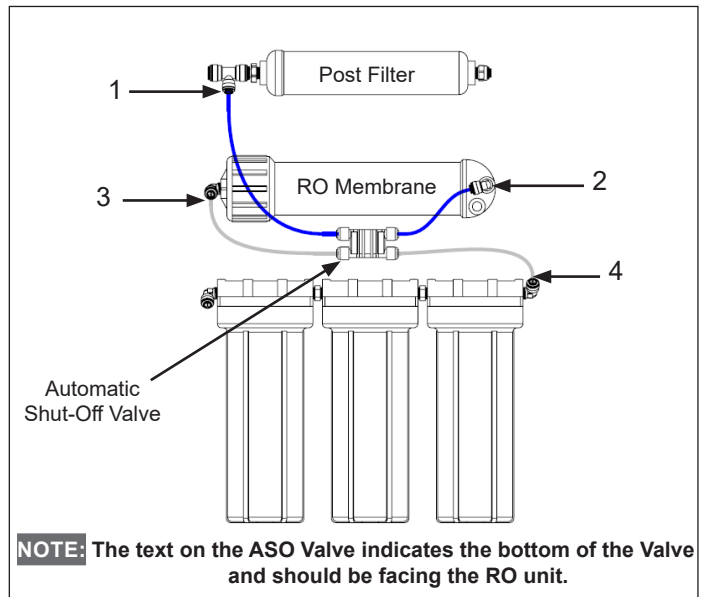

Figure 1. Automatic Shut-Off Valve
3. With new ASO Valve facing up (See Figure 1 for Valve orientation), connect the tubing from each component to the ASO valve by gently pushing tubing into easy-connect fittings (See Figure 1):